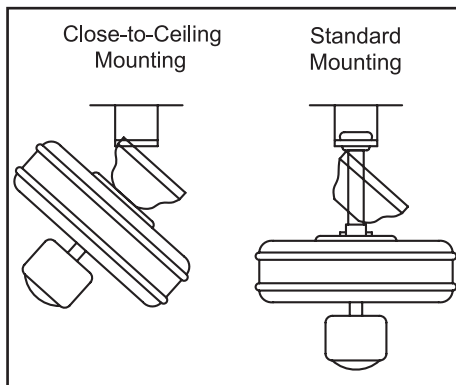

Figure 11
4. Carefully lift the assembly up to the ceiling mounting plate and hang the fan on the hook provided by utilizing one of the holes at the outer rim of the ceiling canopy (Figure 11). If using standard mounting, seat the hanger ball in the mounting plate socket. Make sure the tab on the mounting plate socket is properly seated in the groove in the hanger ball (Figure 11).
THE HOOK AS SHOWN IN FIGURE 11 IS ONLY TO BALANCE THE FAN WHILE ATTACHING WIRING. FAILURE TO HANG AS SHOWN IN FIGURE 11 MAY RESULT IN THE HOOK BREAKING, CAUSING THE FAN TO FALL. THE HOOK MUST PASS FROM INSIDE TO OUTSIDE OF CANOPY.